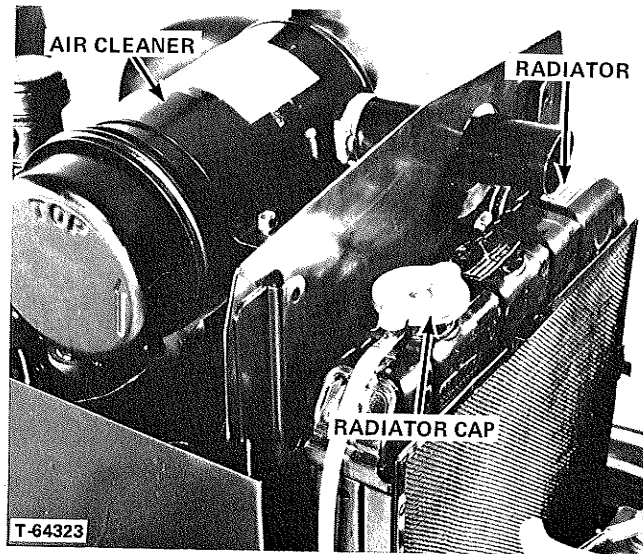

FIGURE 4 - Hood Opened for Clarity
**ENGINE COOLING SYSTEM (Figures 4, 5, & 6)**